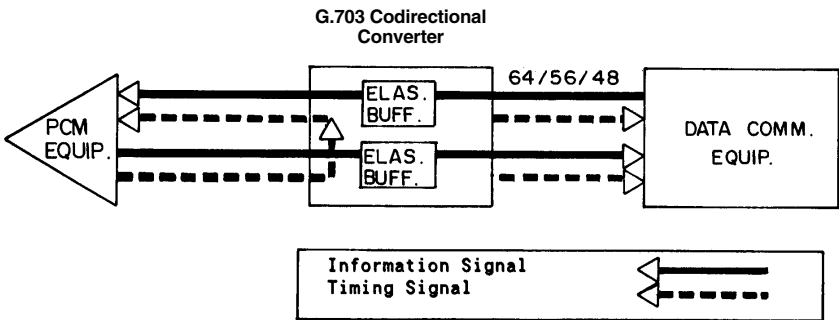

Figure 2-3. LBT-DTE Connection.
- Receive Clock and Transmit Clock are both outputs from the Converter, which serves as a DCE (see Figure 2-3).